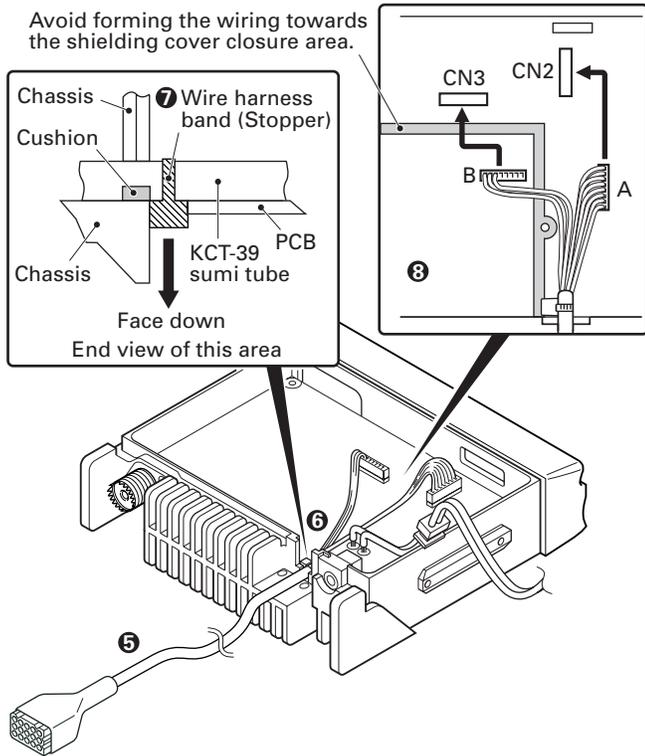

Fig. 5
4. Connect the KCT-39 to the TX-RX unit as shown in Figure 5 ( 8 ).